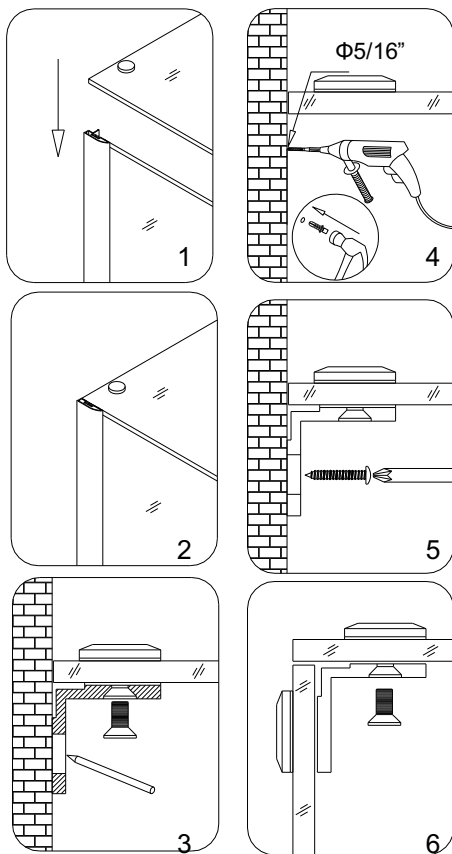

Fig. 23
15. Mark the hole locations for all **Roof brackets** on the wall. Remove the **Roof**, drill the holes and insert the **wall anchors**. Place the **Roof** back on the top of the enclosure and attach the **Glass brackets** to the walls using **Round head screws ST4.2×30 (22)**. Attach the **Roof** to both **Stationary glass panels** with already mounted **Brackets (09)**. See fig. 23 for details.